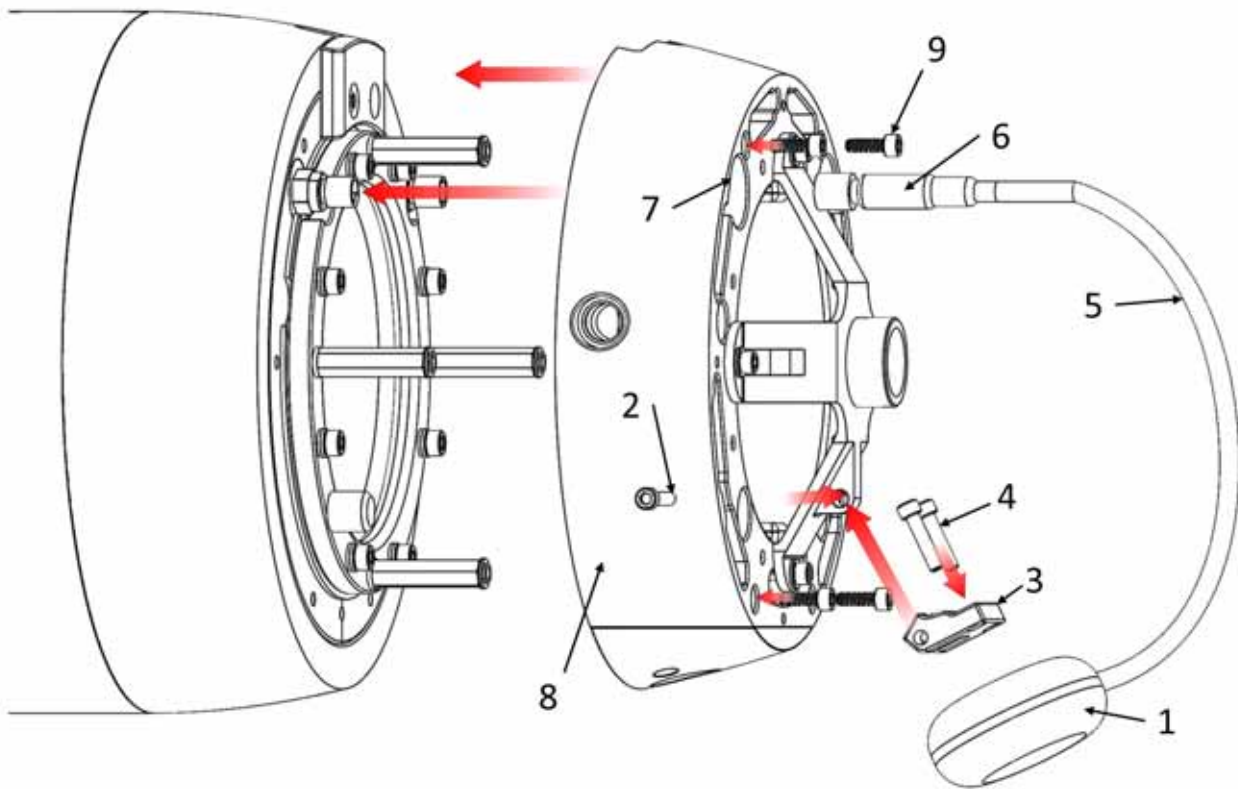

Figure 2-18 Altimeter transducer assembly.
1. Remove the single screw (Figure 2-18 Item 2) from the altimeter transducer bracket (Figure 2-18, Item 3) and two screws (Figure 2-18, Item 4) from the altimeter transducer (Figure 2-18, Item 1) and remove the altimeter transducer.
2. Separate transition piece (Figure 2-18, Item 8) from the forward hull by removing the four screws (Figure 2-18, Item 9).
3. Disconnect the cable connector (Figure 2-18, Item 6), located at the end of the altimeter cable, from the bulkhead connector.
1. Screw the cable connector (Figure 2-18, item 6), located at the end of the altimeter cable, into the bulkhead connector through the transition piece.
2. Reattach the transition piece (Figure 2-18, Item 8) by screwing in the four screws (Figure 2-18, Item 9).
3. Install the single screw (Figure 2-18, Item 2) into the altimeter transducer bracket (Figure 2-18, Item 3) and two screws (Figure 2-18, Item 4) into the altimeter transducer (Figure 2-18, Item 1).